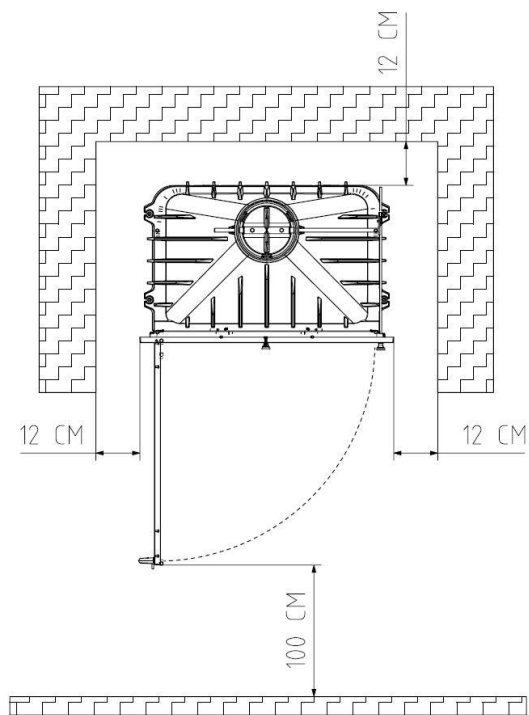

Figure 10
- When you put the stove in place, bear in mind the safety distances required for combustible surfaces (wooden or wallpapered walls, wooden floors, etc.) both from the appliance and the chimney. These same distances should be respected when the coating on the walls or nearby areas is susceptible to damage or deformity due to the effects of heat (varnishes, paints, P.V.C., etc.). See figure 10.